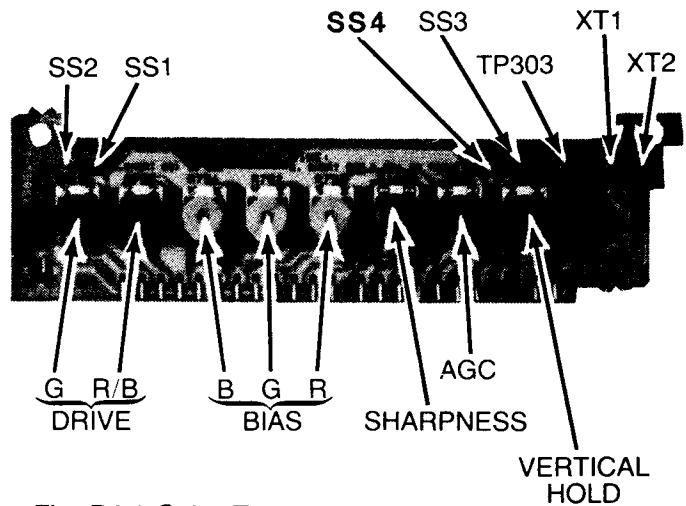

Fig. B4-1 Color Temperature Adjust
2. Presets (Fig. B4-1):
4. Depending on color of line produced in step 3, advance remaining color bias controls (CW) to just produce a white horizontal line.